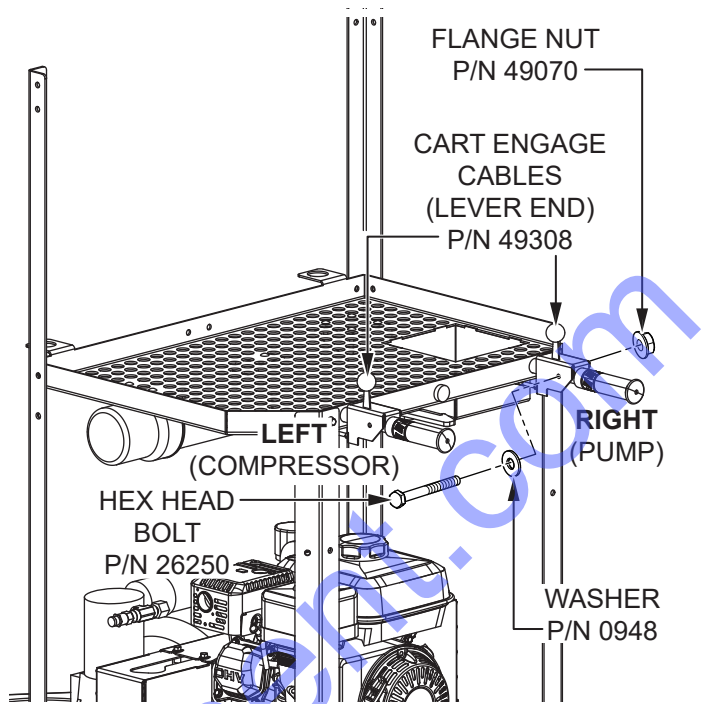

**Figure 7. Tool Tray Installation**
- Secure the tool tray (P/N 49225) to the four upright frame mounts with five 1/4-20 x 3/4" flange bolts (P/N 49048) and five 1/4-20 flange nuts (P/N 49070). See Figure 7.